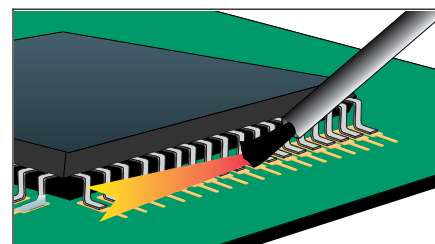

Figure 3 Flux Leads
5. Apply flux to remaining lead/land areas. (See Figure 3.)